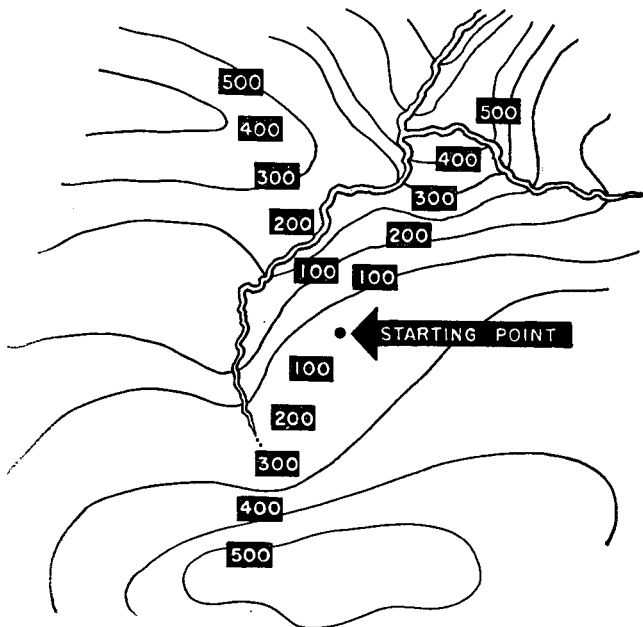

Figure 127. Diagram of an area used for teaching the application of the 100-yard unit of measure (schematic).
b. Plan for a number of range estimation areas as shown in figure 127. When facilities permit, these areas should be near other training locations so that practice in range estimation can be conducted along with other training.